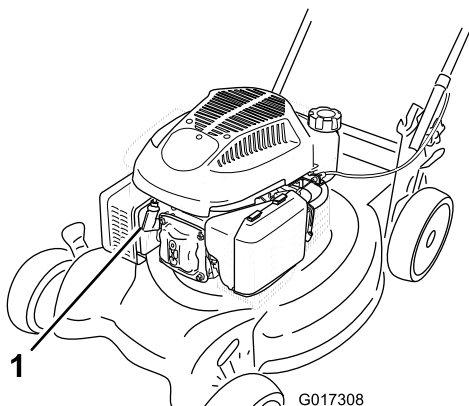

Figure 24
2. Disconnect the spark-plug wire from the spark plug (Figure 24) before performing any maintenance procedure.